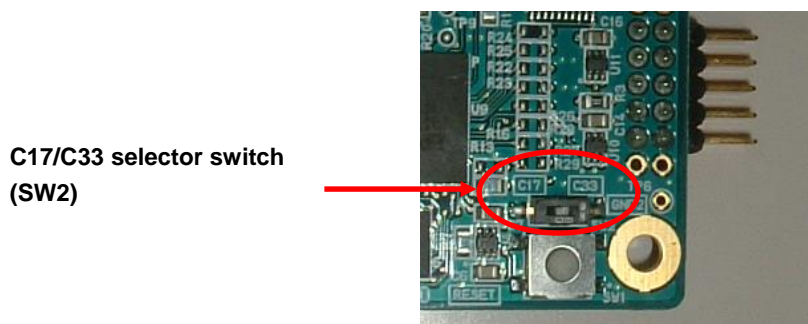

Figure 3.11 C17/C33 selector switch
* The C17/C33 selector switch (SW2) in Figure 3.11 should be permanently set to “C33.” No operations are possible if this is set to “C17.”